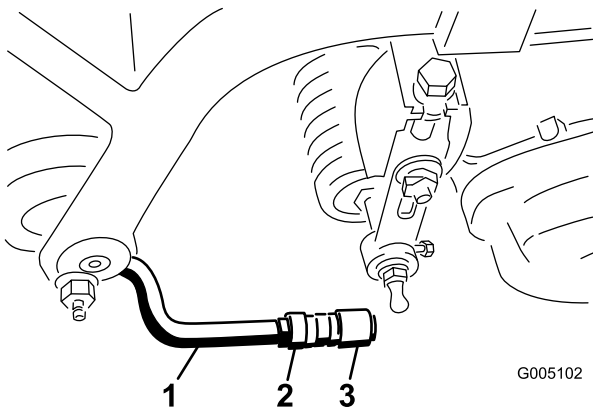

Figure 9
6. Align the sockets in the ball joints so the open side of the socket is centered towards the ball stud. Tighten the jam nuts to secure the sockets in position (Figure 9).